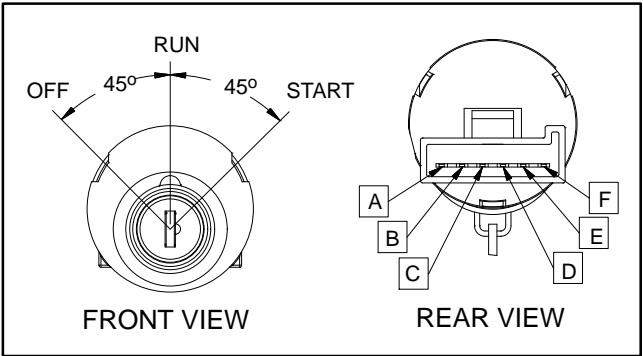

Figure 20
The ignition (key) switch is located on the control panel and has three positions: OFF, RUN and START (Fig. 20).
5. The ignition switch terminals are identified in Figure 20 and the circuitry of the switch is shown in the chart in Figure 21. With the use of a multimeter (ohms setting), the switch functions can be tested to determine whether continuity exists between the various terminals for each switch position. Verify continuity between switch terminals.